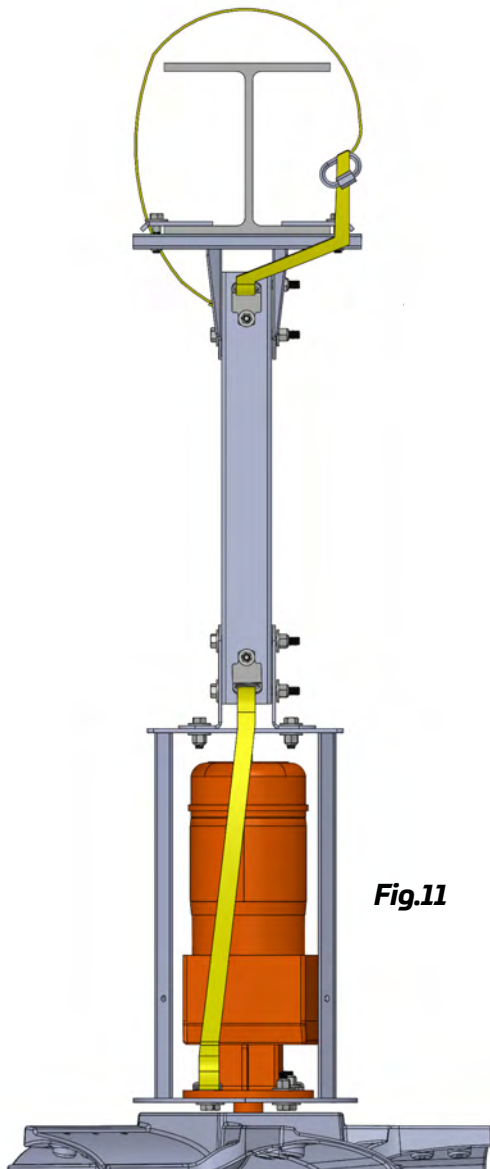

Fig.11
3. Wrap the Z-TechSS™ Upper Safety Straps (per Fig. 11) as tightly as possible around the building structure and fasten the loops with the 3/8" quick link or shackle provided.